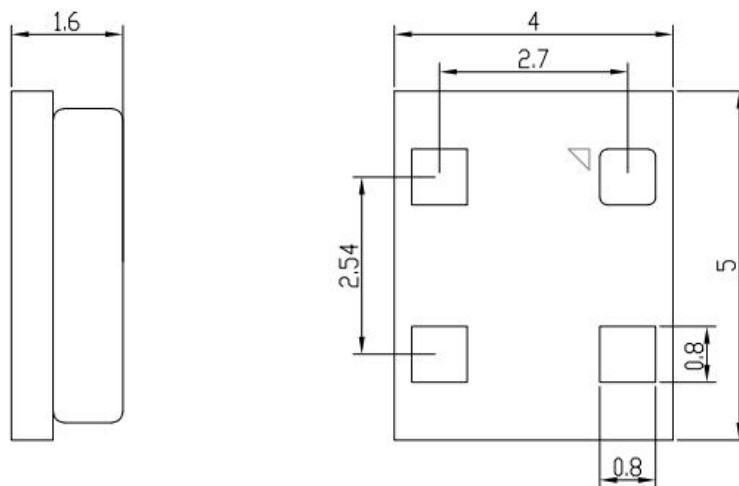

Figure 5. AGS10ET dimension (unit: mm, general tolerances: ISO2768-mK)
- (b) Sensors are in a high temperature and/or high humidity environment. See Figure 5 for the influence of temperature and humidity on sensor measurements.